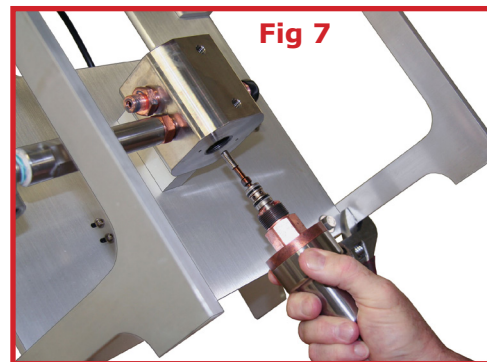

Fig 7
**Step 4:** Tilt the Tri-Mode Valve (Fig 7), unscrew the spring holder/cartridge adapter assembly using a crescent wrench, and withdraw the lower part of the cartridge.